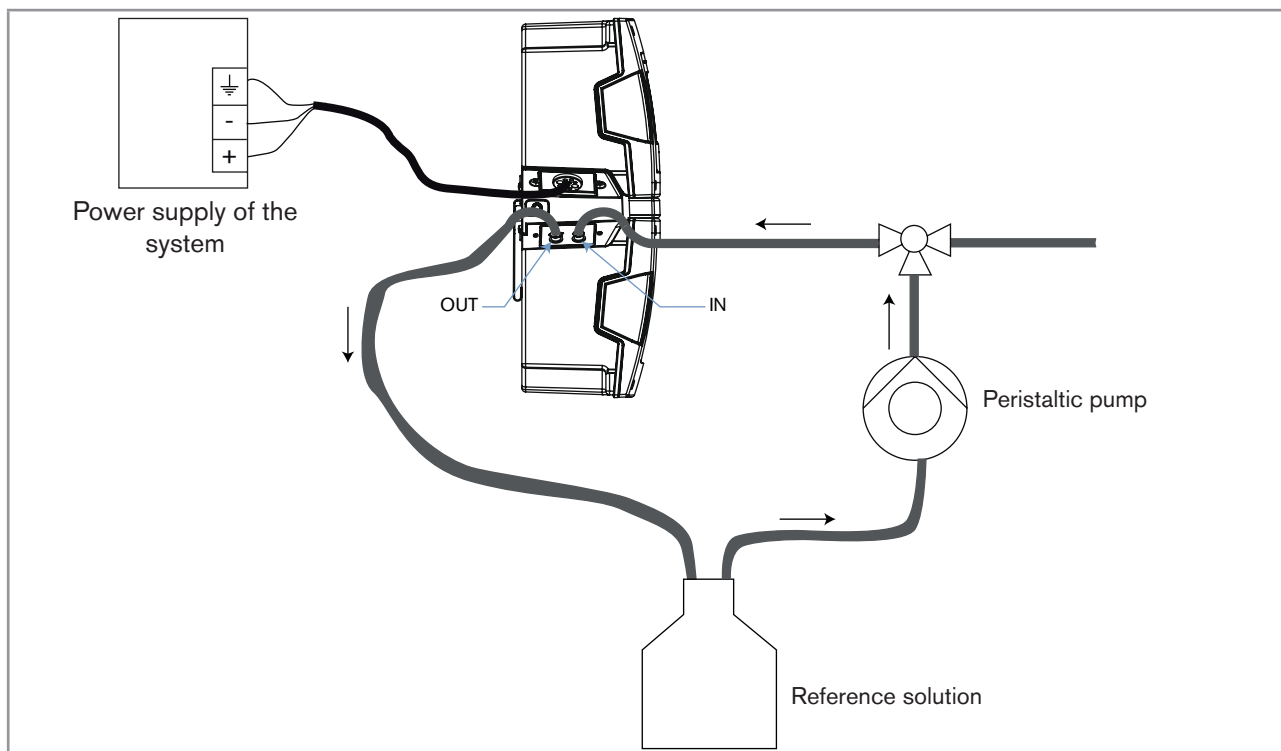

Fig. 3: Installation for calibration of the product off-line
1. Connect a peristaltic pump in the water sample inlet circuit of the system, as shown in Fig. 3. If the fluidic connections are not done correctly, the product and the system can be damaged because the pressure in the product and in the system is too high.